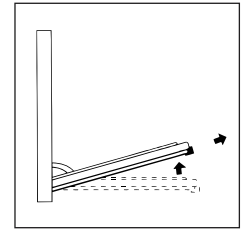

FIG. 3B
- Now, shutting the door slightly, you can lift it out by pulling out the hooks "A" as shown in figure 3B